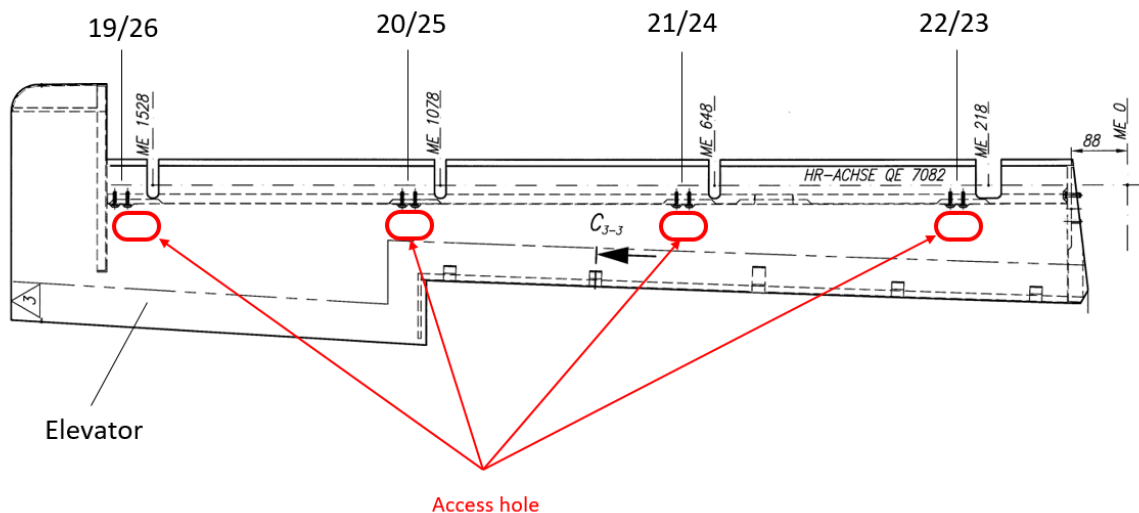
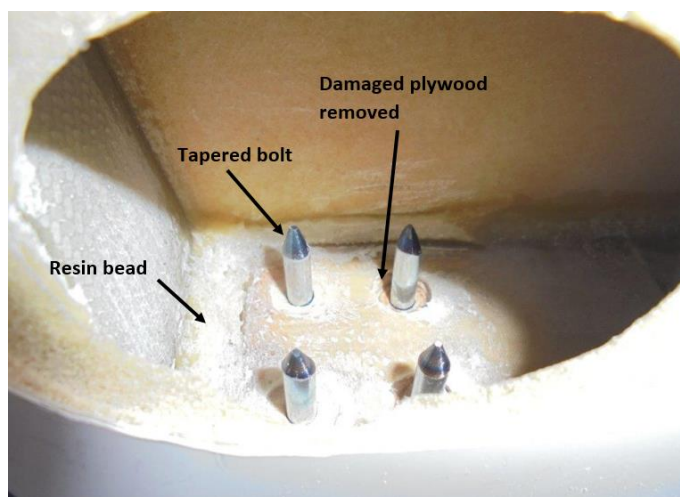
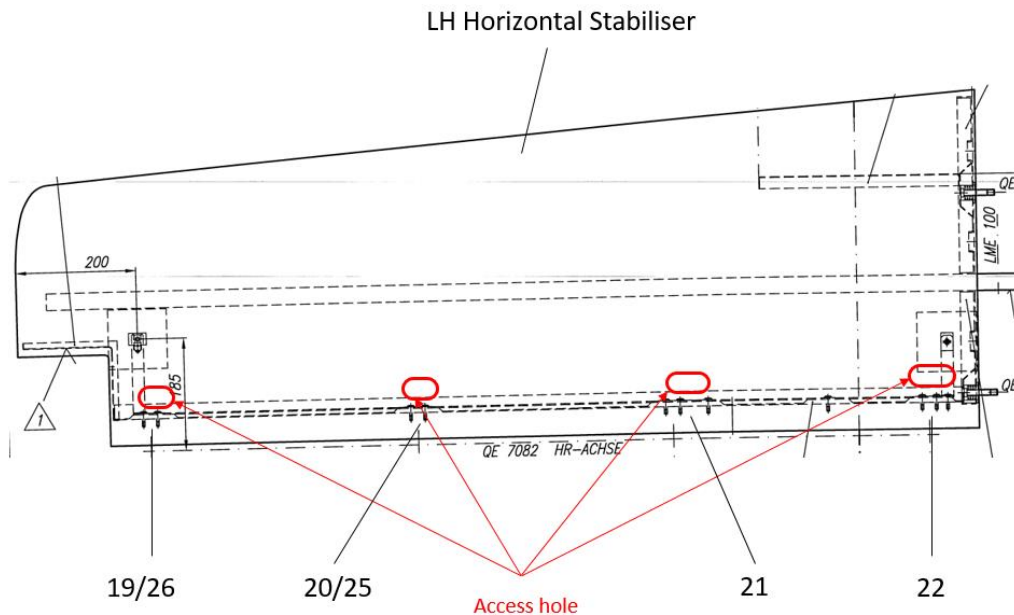
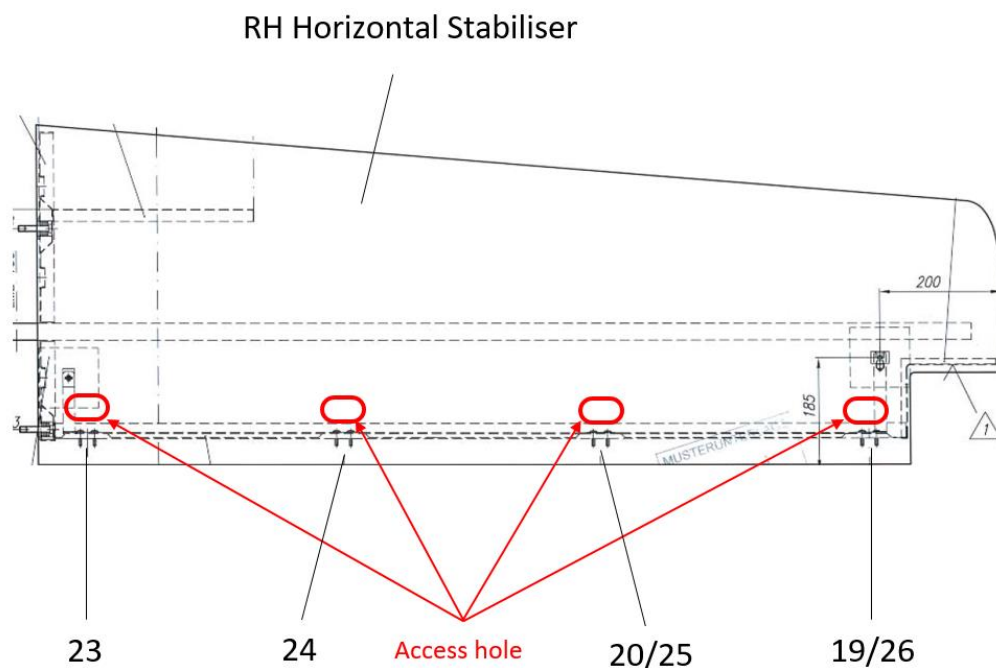

Figure 1: Elevator Access Holes and Hinge Bracket Locations (LH shown, RH mirrored)
Figure 2: Insert damage removed and tapered bolts installed
Figure 7: LH Horizontal Stabiliser Access Holes and Hinge Bracket Locations
Figure 8: RH Horizontal Stabiliser Access Holes and Hinge Bracket Locations
- 7.1.4 Cut an access hole into the elevator surface as small as practical, refer to Figure 1. Grob recommends to cut the access holes into the lower elevator surface.
- 7.1.8 If required, remove the damaged glass layer and plywood material around the bolt holes with a piloted counterbore, refer to Figure 2.
- 7.1.10 Install four tapered bolts through holes in the spar. Wax the tapered bolts with release agent e.g. QZ5111 before installation. The tapered end must point to the inside of the elevator, refer to Figure 2. Verify that the repair plate fits in the repair area properly. If required, trim the repair plate to fit. Refer to Figure 1 and Table 1 for the P/N of the Repair Plate.
- 7.2.4 If required, cut an access hole into the horizontal stabiliser surface as small as practical, refer to Figure 7. Grob recommends to cut the access holes into the lower stabiliser surface.
- 7.2.8 If required, remove the damaged carbon layers and plywood material around the bolt holes with a piloted counterbore, refer to Figure 2.
- 7.2.10 Install tapered bolts through holes in the spar. Wax the tapered bolts with release agent e.g. QZ5111 before installation. The tapered end must point to the inside of the horizontal stabiliser, refer to Figure 2. Verify that the repair plate fits in the repair area properly. If required, trim the repair plate to fit (Refer to Figure 7 or Figure 8 and Table 2 for the P/N of the Repair Plate).